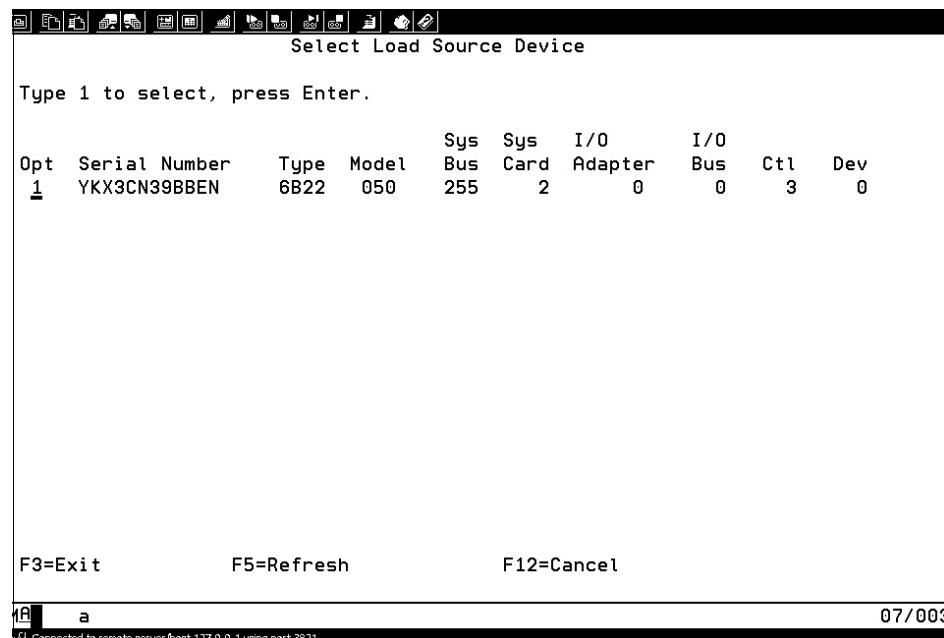

Figure 7-51 Select source disk
6. Now select the target install device. Move the cursor to the target device, type 1 and press **Enter**; see Figure 7-51 on page 296.